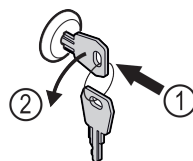

Fig. 208
- Insert the key. Fig. 208 (1)
- Turn the key anticlockwise by 90°. Fig. 208 (2)